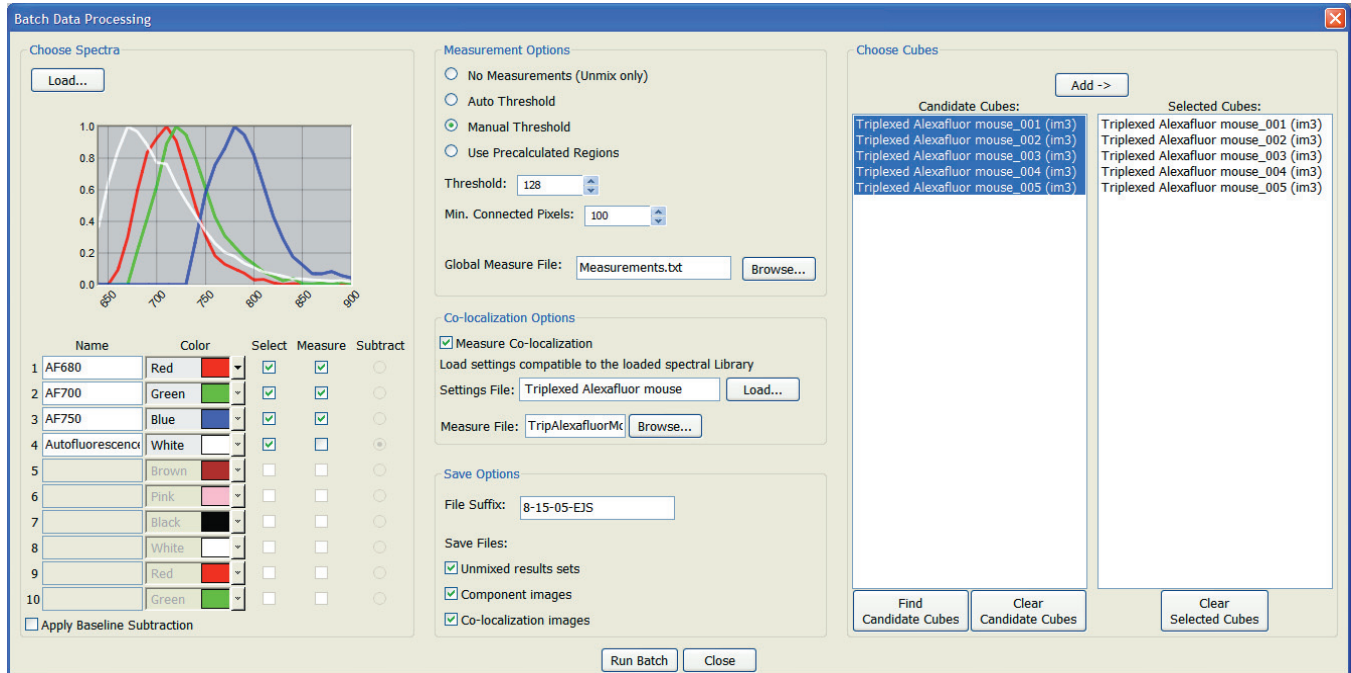

Figure 54. Batch Data Processing
10. When the batch process is complete, you can open an explorer window of the cube directory to view the exported files. For example, the ‘Triplexed Alexafluor mouse_001’ candidate cube shown in Figure 54 resulted in the following exported files: